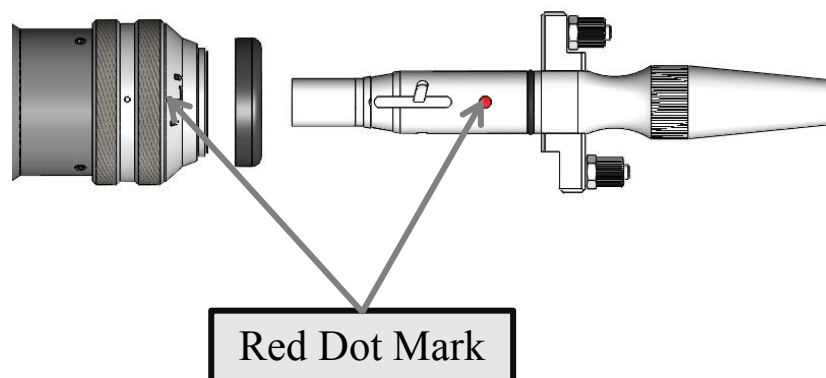

Figure 1.8
- ④ Align the red dot on the fiber laser tip with the red dot on the QBH connector, and slowly insert the fiber tip into the QBH connector, as shown in Figure 1.8.